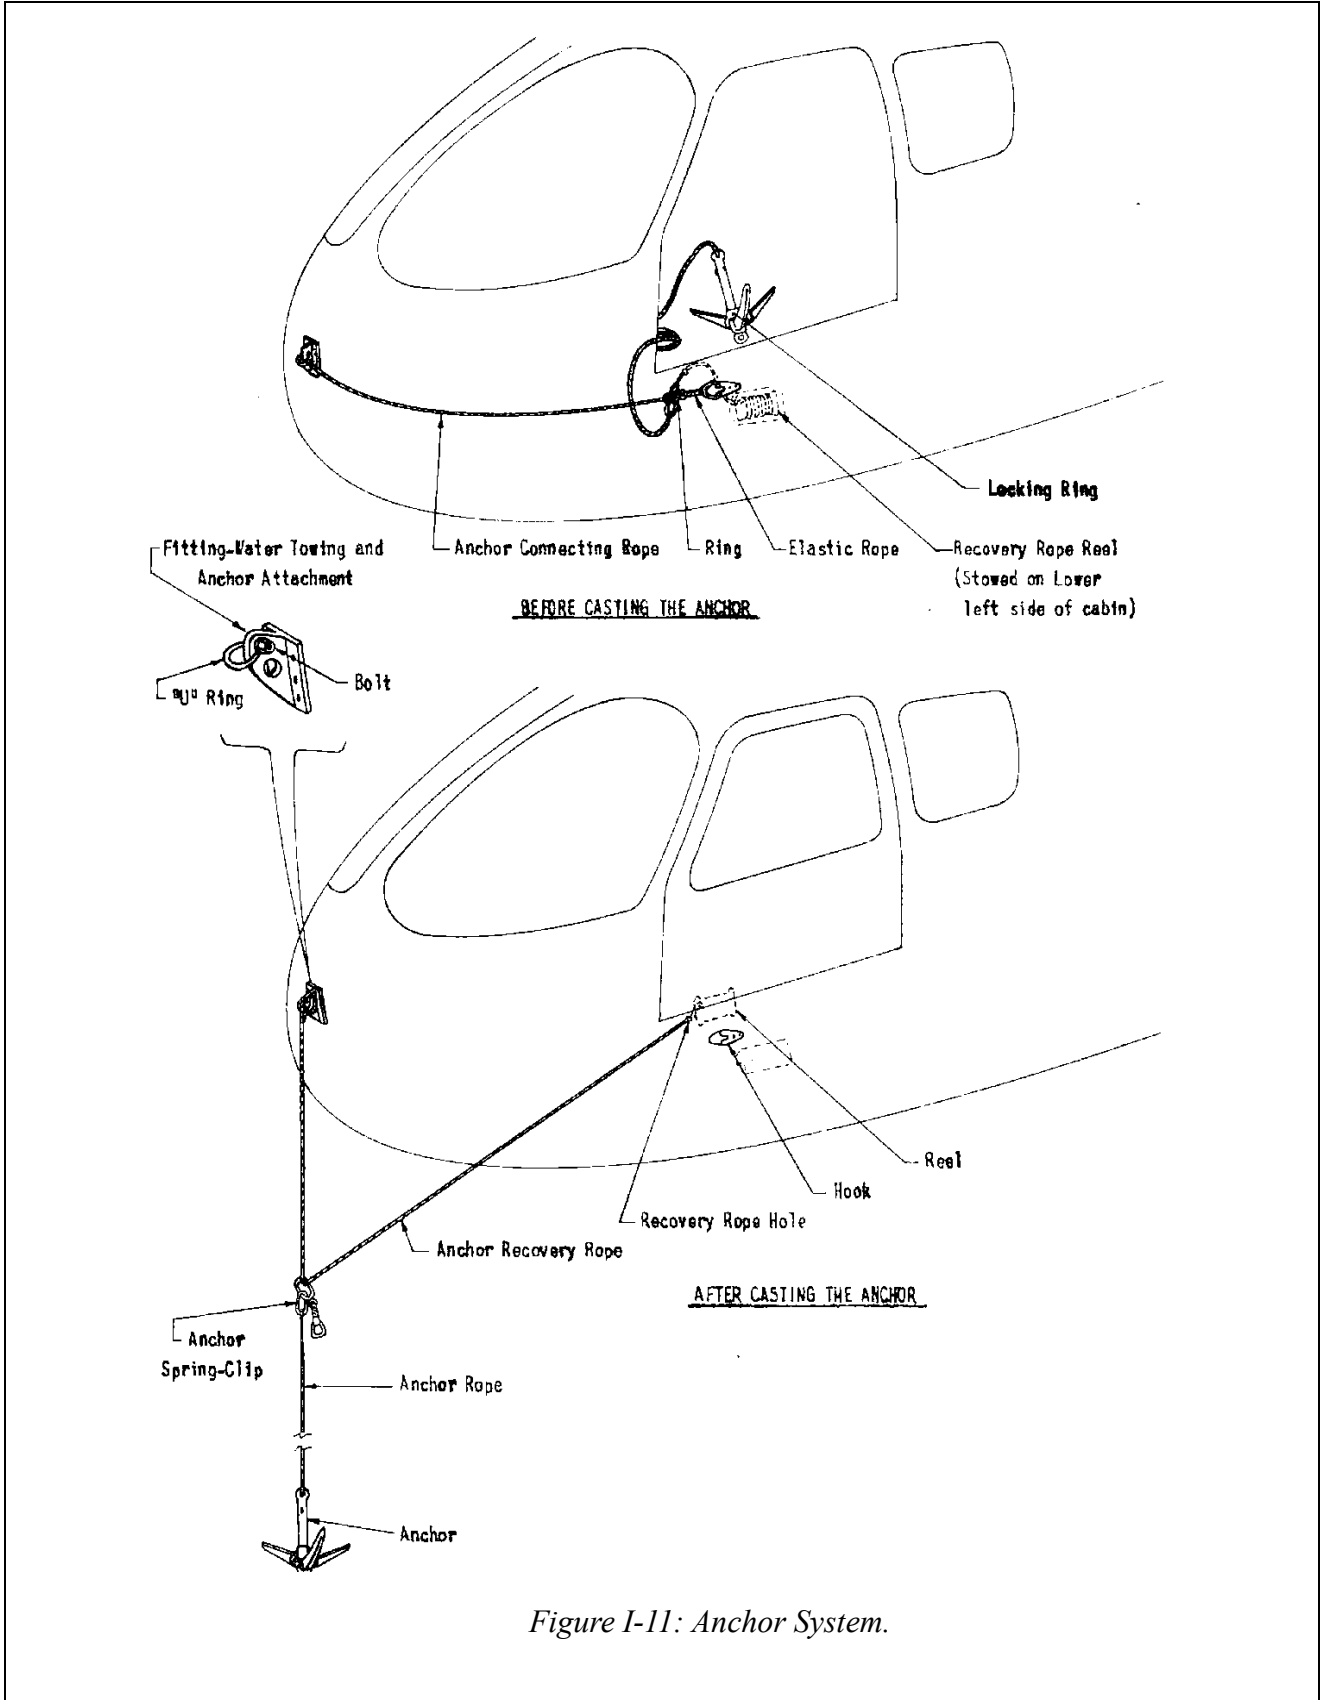

Figure I-11: Anchor System.
An anchor system for anchorage of the airplane in water may be installed in your airplane. (See Figure I-11).
- b) Hook the anchor rope spring-clip to ring of the anchor connecting rope (Figure I-11). Remove the recovery rope reel from its container and unwind the rope.